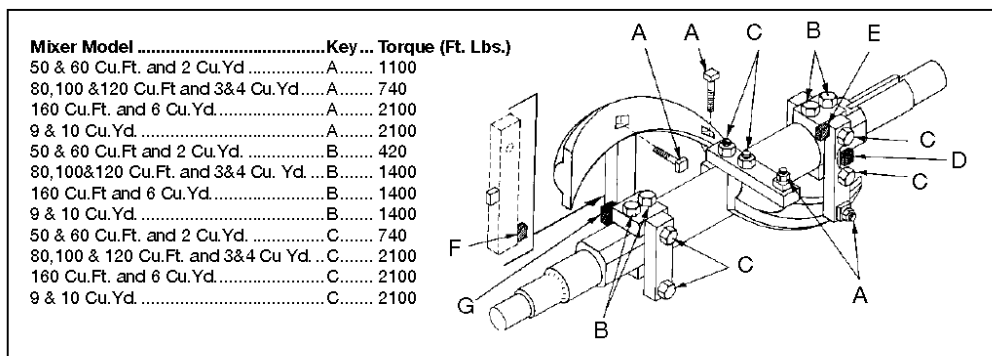

Figure 3 - Bolt Torque Requirements, Bolt and Steel Block Locations for Mixer Blade Assemblies
1. Tighten the bolts following the torque requirements outlined in figure 3.
2. To prevent the blade arm from shifting, weld the steel blocks supplied with the new blade(s) to the blade shaft blocking in locations D, E, F, and G as shown in Figure 3. Weld the steel blocks at three points (top, side, and bottom) to the blade shaft blocking. Do not weld the steel blocks to the blade arms.